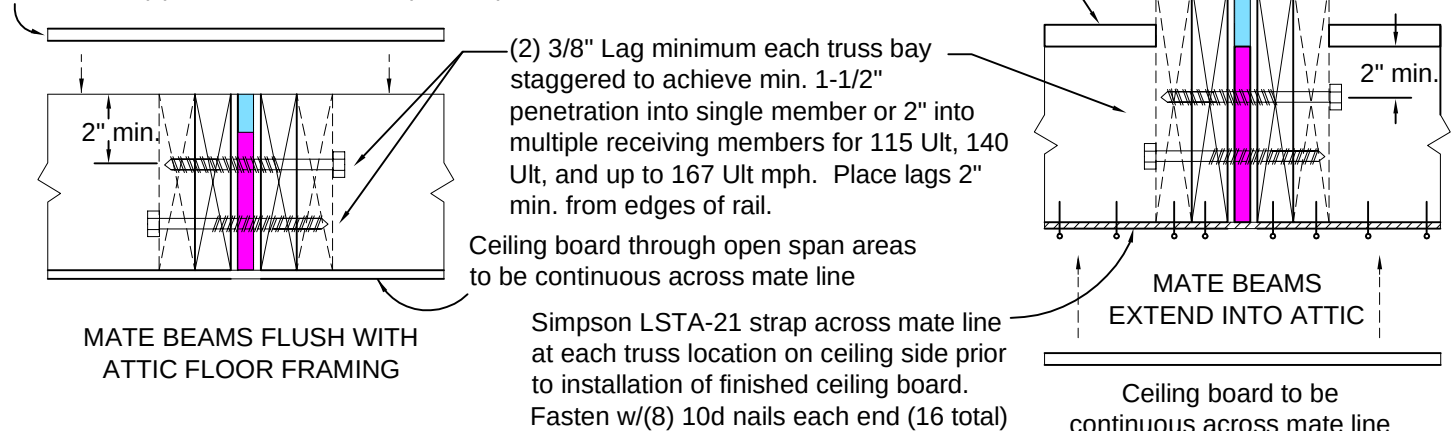

Fig. 5.12.2 - Attic Floor at Through Mate Wall Spans
See Fig. 5-12.1 & Fig. 5.12.2
1. Rated floor sheathing must be installed in such a manner that it is continuous across the mate line of the home and fastened using at least (9) 0.131 nails and 1" penetration each side of mate line into each truss bottom chord. (Or install tension straps at each roof truss location per Fig. 5.12.1 and Fig. 5.12.2. (Decking fastening, other than mate line, is per IRC fastening schedule.)